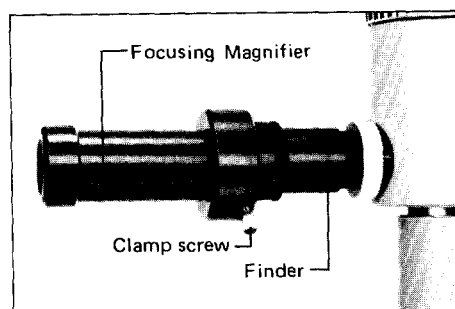

Fig. 20
- ① Looking into the observation tubes, move the portion of specimen to be photographed to the center of the viewfield. Then, set the light-path change-over lever to "LEFT" or "RIGHT" of "STEREO PHOTO" position.
- ② After changing-over the light-path, fit the focusing magnifier to the finder of the Microflex, and proceed to focus. (Fig. 20)